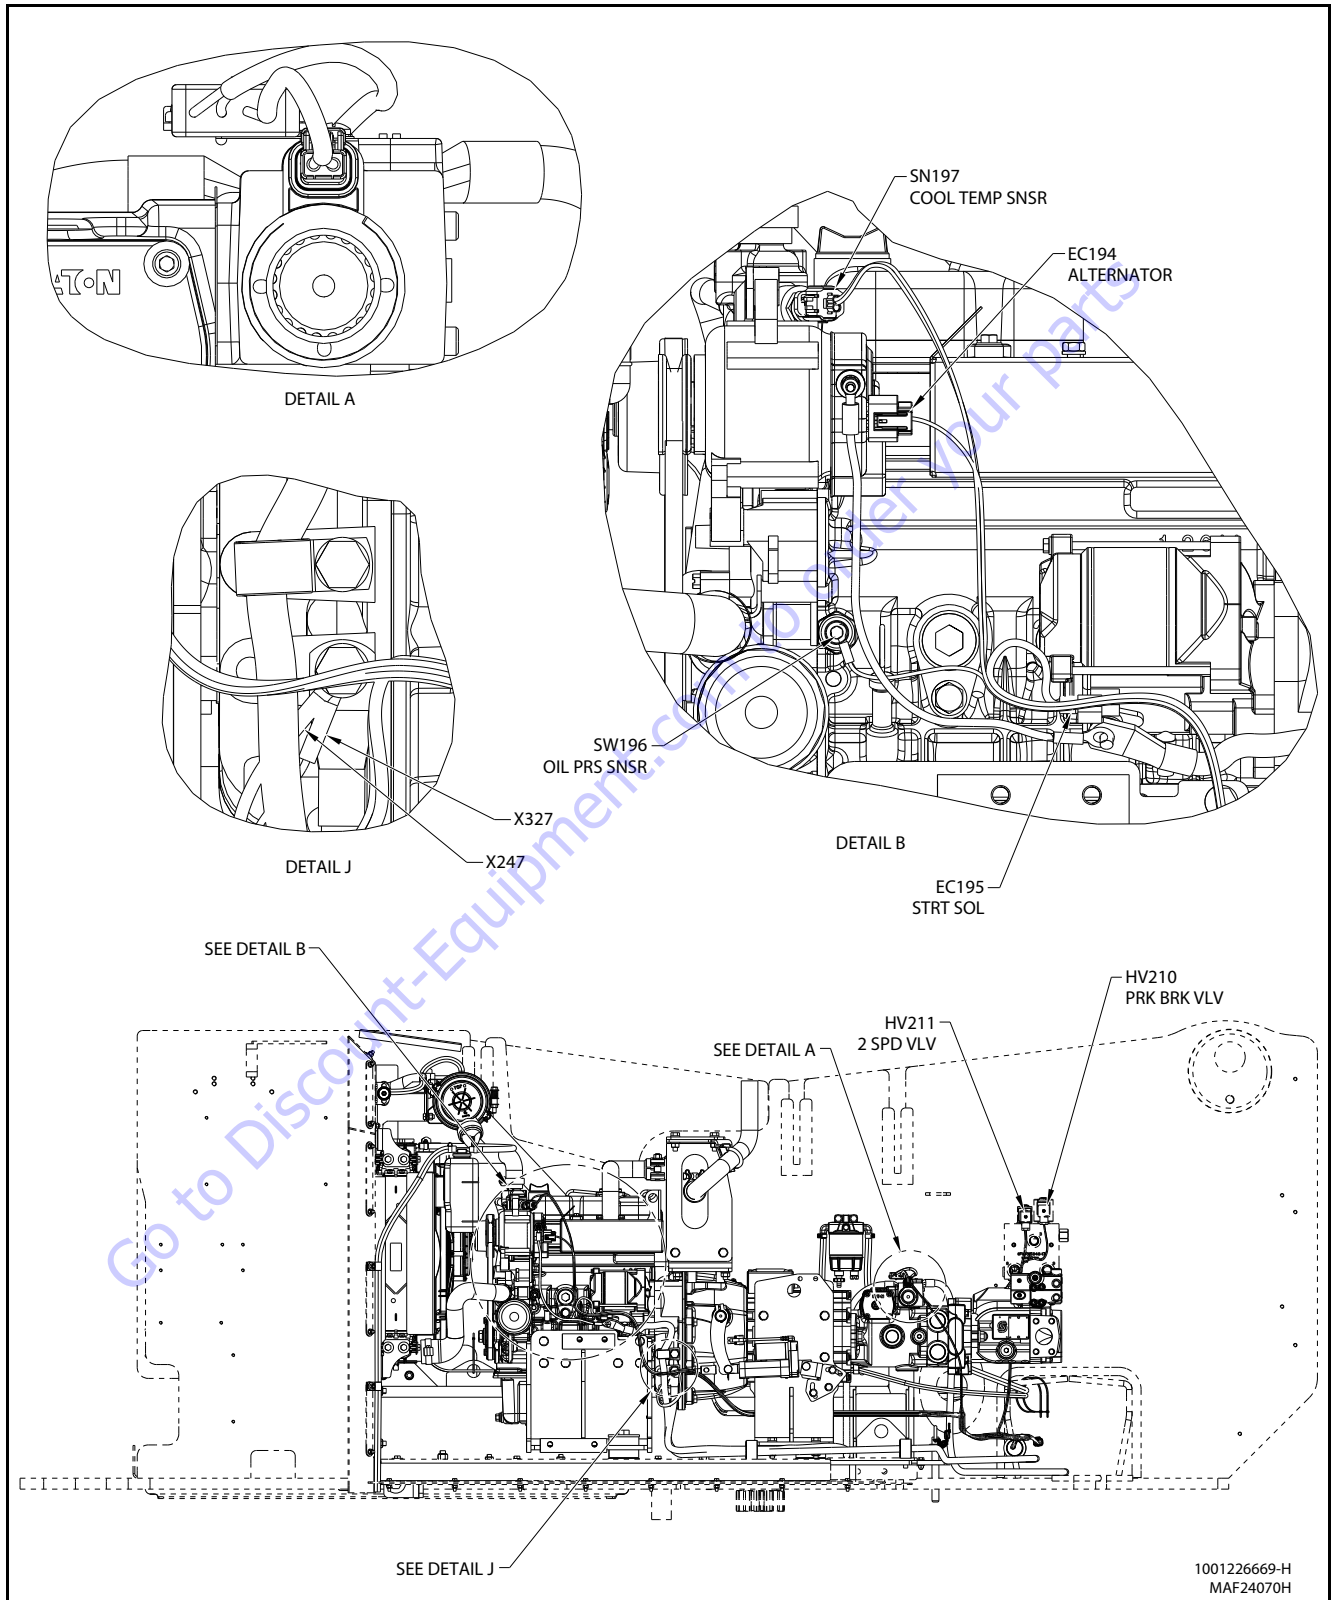

Figure 3-66. Engine Installation - Sheet 1 of 5
3. Using the pattern shown in Figure 3-66., Clutch Plate Torque Sequence, work back and forth around the clutch turning each bolt not more than 3 turns before turning the other bolts to a similar level. Stop when the pressure plate contacts the flywheel adapter. Do not apply final torque.